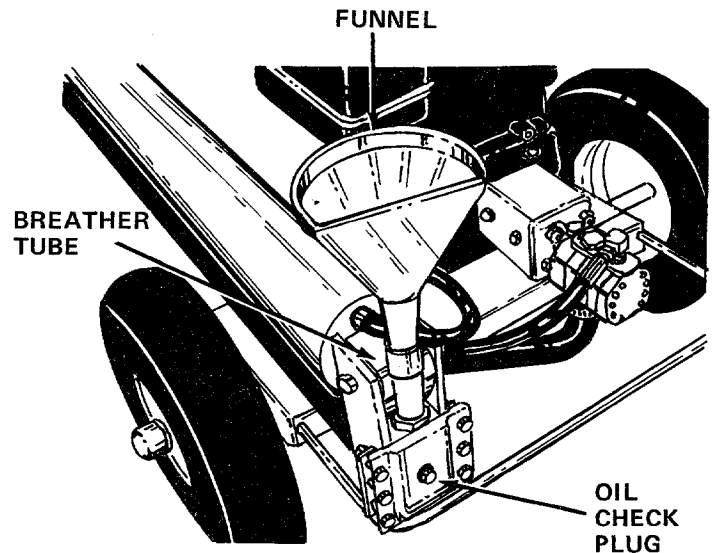

FIGURE 11
- Remove the oil check plug from the back of the log splitter. See figure 11. If oil starts to come out of the hole, oil level is correct. If it does not, remove the cap from the breather tube and add oil until oil starts out of the check hole.